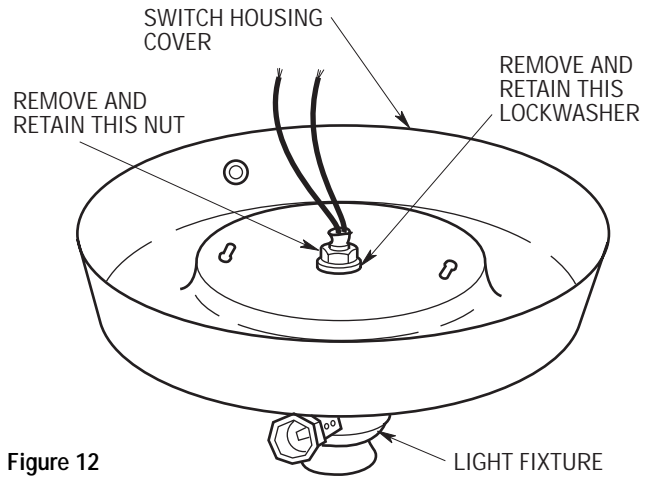

Figure 12
- 19. Remove the nut and lockwasher securing the light fixture to the switch housing cover (Figure 12). Unscrew the light fixture from the switch housing cover. Retain the light fixture in case you want to install it later.